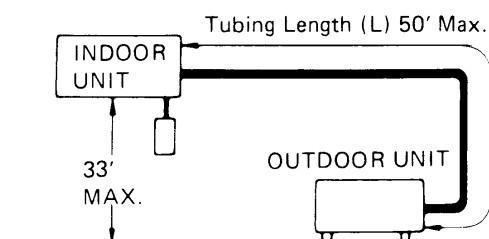

Fig. 2
- install unit within 33' up or down of outdoor unit and within a total of 50' from outdoor unit. Fig. 2